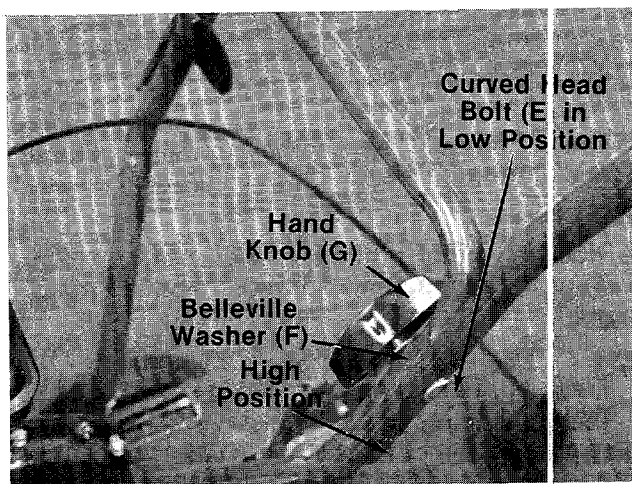

FIGURE 3.
3. There are two height positions for the upper handles. Place left hand upper handle (with clutch grip and cable support bracket already assembled) in position on lower handle, selecting hole for either high or low position. Secure with curved head bolt (E), Belleville washer (F) (cupped side against the handle) and hand knob (G). See figure 3. Do not tighten at this time. Assemble right hand upper handle in the same manner.